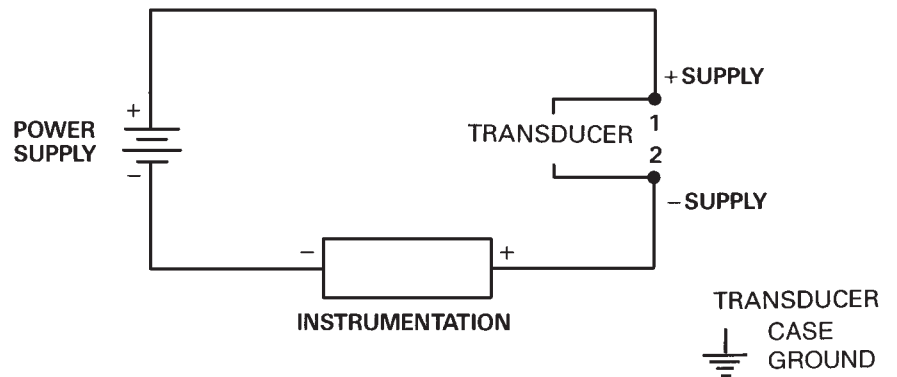

Figure 3.
4. Insert cable into hole (not screw hole) and feed through into square part of assembly. Wire terminals in terminal block using wiring diagram (refer to Figure 3).